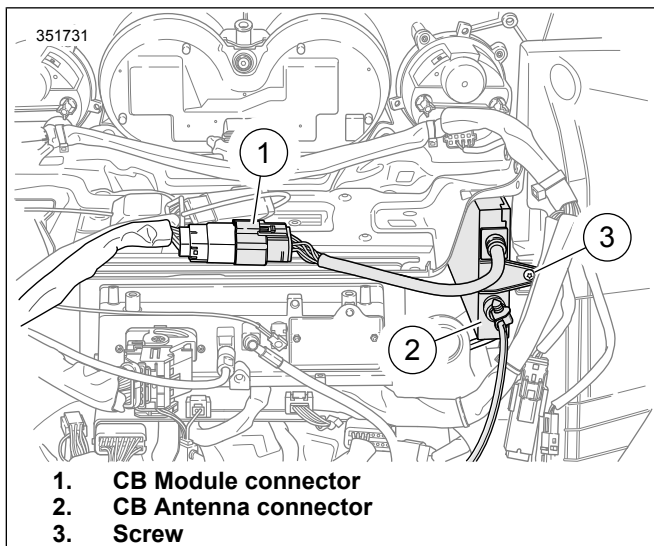

Figure 3. Inner Fairing Harness Connectors
5. See Figure 3. Connect 12-place socket housing to CB [184] (1).